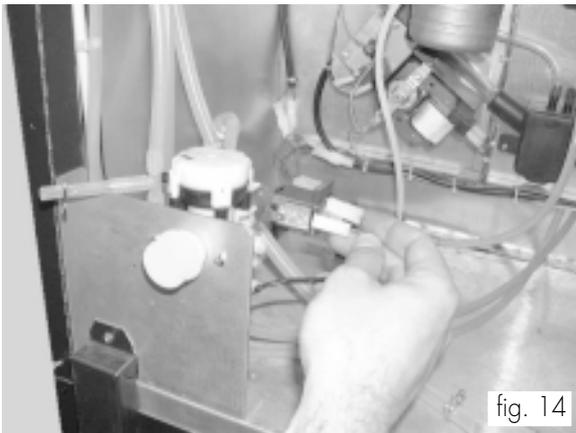

fig. 14
- Disconnect the two power supply wirings from the water inlet solenoid valve (fig. 14).